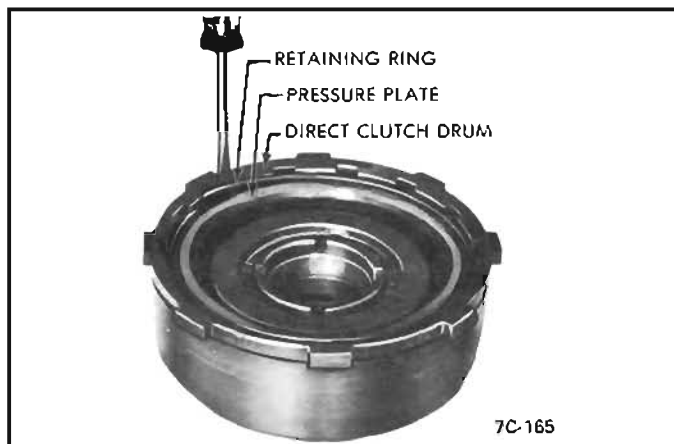

Figure 56 Direct Clutch Disassembly
5. Remove direct clutch pressure plate to clutch drum retaining ring and pressure plate. *See Figure 56.*
6. Install direct clutch pressure plate and retaining ring. *See Figure 56.*